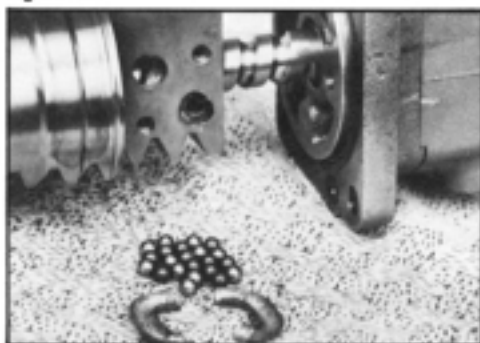

Figure 64
20. Remove the ball return guide halves (35) from the rack piston (39). With the rack piston ball guide holes tilting down, rotate worm shaft (23) to allow all balls (34A, 34B) to fall out. SEE FIGURE 64.